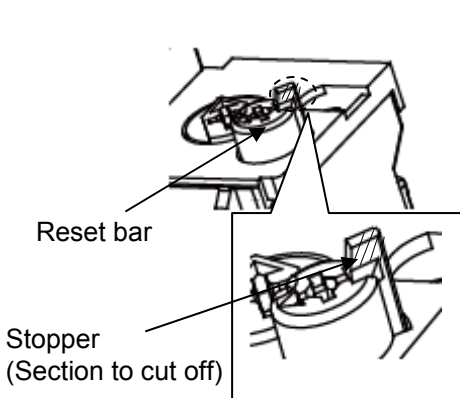

Fig. 4
1. Cut the reset bar's stopper section (shaded section) with a pair of nippers. (Fig. 4)